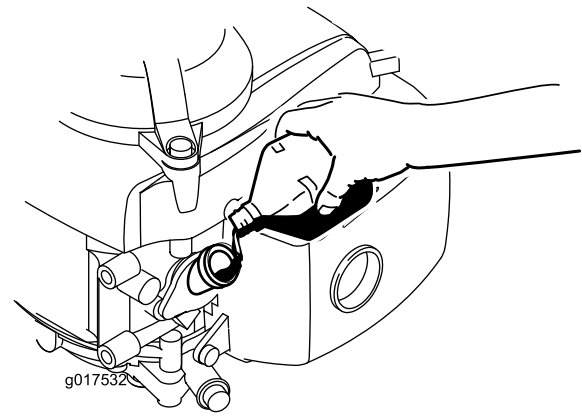

Figure 6
3. Carefully pour about 3/4 of the engine capacity of oil into the oil-fill tube (Figure 6).